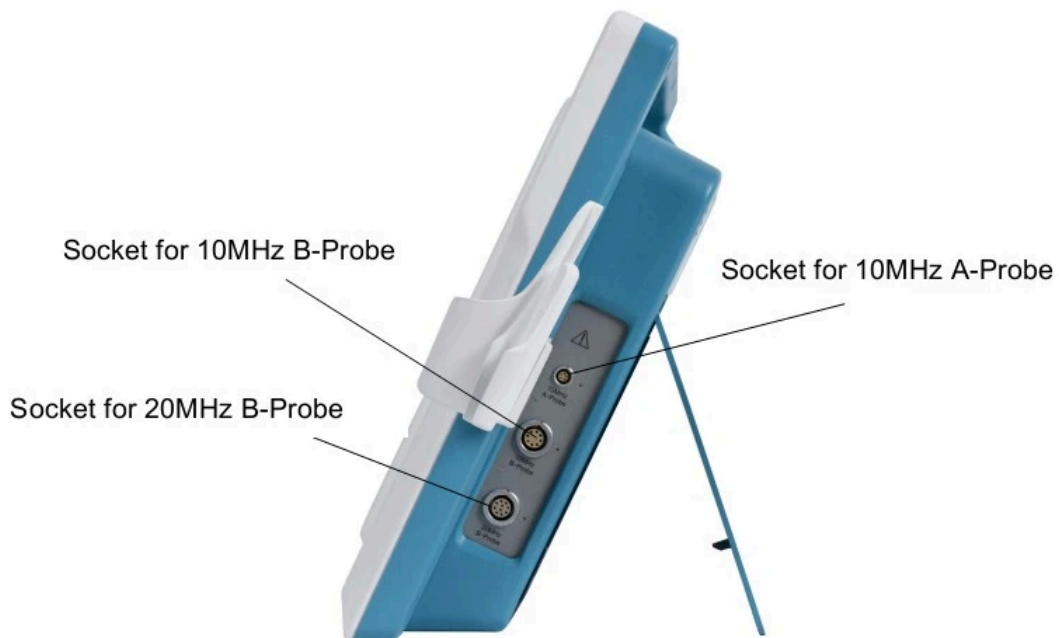

Figure 3-3 Right View of EUS-2600
1. Insert the 10MHz A-Probe, 10MHz B-Probe and 20MHz B-Probe into their corresponding sockets, respectively, shown in Figure 3-3;